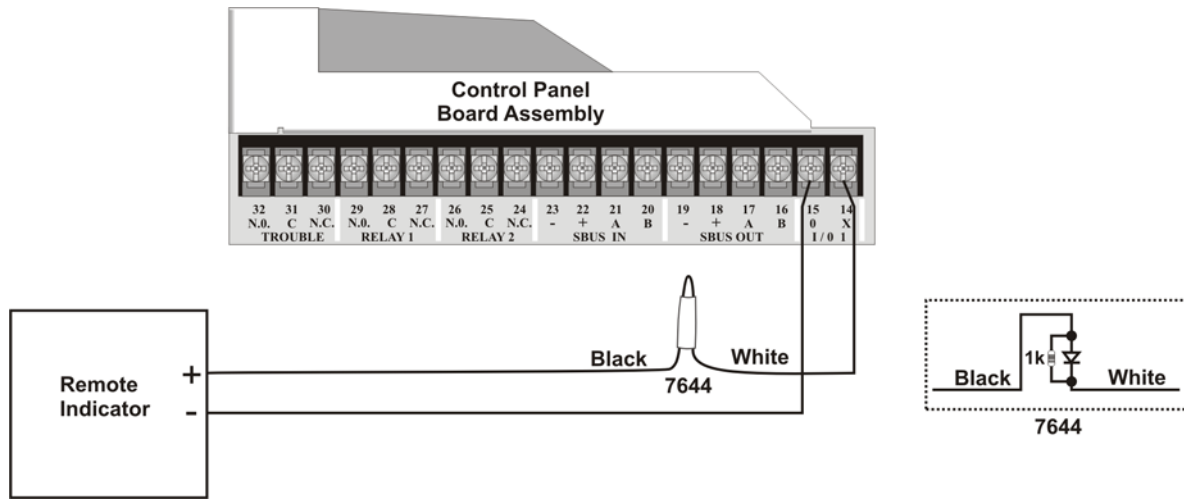

Figure 4-43 Polarity Reversal Connection Using the 7644
1. Wire the 7644 to the control panel as shown in Figure 4-43. Do not install an EOL resistor on the terminals of the Flexput circuit used.